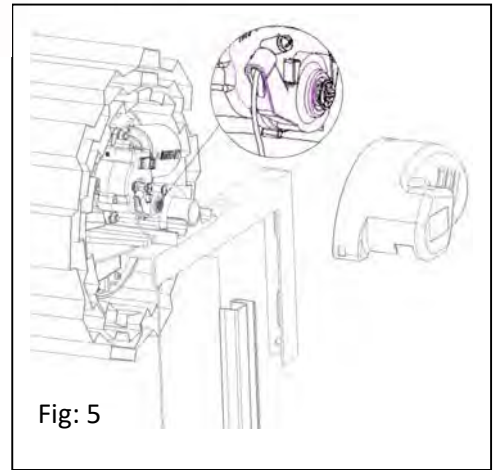

Fig: 5
- l) Insert manual release cable into the manual release lever in the motor and secure it by tightening the lock screw. (*Fig 5*)